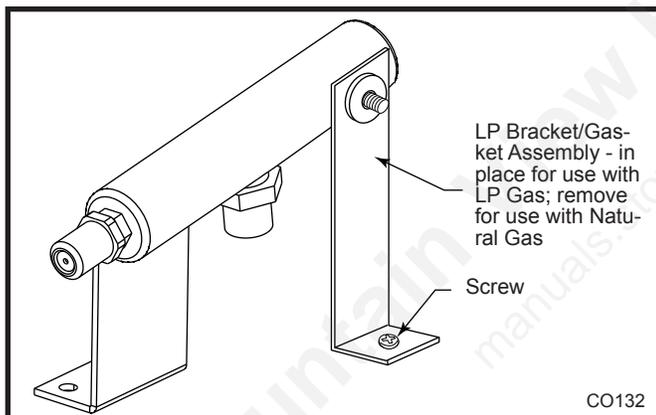

Fig. 67a LP bracket/gasket assembly.
- Converting LP to NG, remove bracket/gasket assembly by unfastening the screw which secures the bracket to the burner tray base. Discard bracket and refasten the screw into the hole. (Fig. 67a)
Converting NG to LP, assemble the bracket/gasket assembly to the burner tray assembly base by unfastening the screw on the tray to the right side of the orifice. Slide the bracket/gasket assembly over the fitting on the manifold toward the back with the gasket to the right. Secure the bracket/gasket assembly using the screw removed earlier. (Fig. 67a)
4. Converting LP to NG, remove bracket/gasket assembly by unfastening the screw which secures the bracket to the burner tray base. Discard bracket and refasten the screw into the hole. (Fig. 67a)
- unfastening the screw on the tray to the right side of the orifice. Slide the bracket/gasket assembly over the fitting on the manifold toward the back with the gasket to the right. Secure the bracket/gasket assembly using the screw removed earlier. (Fig. 67a)